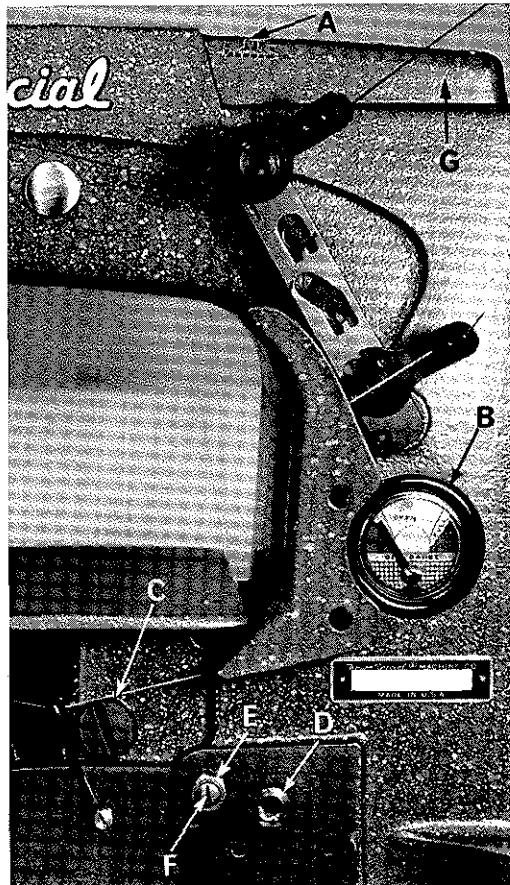
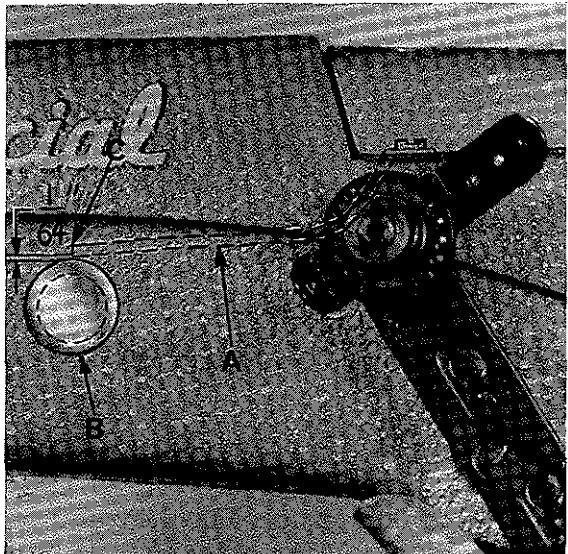

Fig. 2
Fig. 3
Use a straight mineral oil of a Saybolt viscosity of 90 to 125 seconds at 100° Fahrenheit in the main reservoir. This is equivalent to Union Special specification No. 175. Fill main reservoir at plug screw in upper crank chamber cover (A, Fig. 2) and check oil level at gauge (B). Oil is at maximum level when needle is in yellow band marked "Full". Oil should be added when needle is in yellow band marked "Low". Recommended grease No. 28604 P (See Page 10).
For machines in operation check the oil for dirt and lint deposits at reasonable intervals. If dirty, change the oil. An oil change is recommended every 2000 operating hours. Oil may be drained from main reservoir by removing plug screw (C, Fig. 2) located below the cloth plate at front of the machine, or by removing the lower crank chamber cover, located at the back of machine.
2. Remove the oil reservoir plug screw (C, Fig. 2) and tip machine forward to drain oil from the reservoir.
5. Fill main reservoir to a level even with the bottom contour of the knee press shaft bushing (D, Fig. 2).
6. Loosen lock nut (E) on calibrating screw (F), and turn the screw to the left or right until the gauge needle rests in the middle of the yellow band marked "LOW".
7. Tighten lock nut (E) and replace plug screw (C).
Remove the head cover and upper crank chamber cover (G, Fig. 2). Check position of needle lever bearings oiler(A, Fig. 3) located inside the arm casting, below the upper crank chamber cover, which lubricates the needle lever stud (B). Make sure it is tilted downwardly and that its delivery end (C) contacts the inside wall of the bed casting at the back, just above the notch of the needle lever shaft stop collar. (Do not allow the oiler to rest on the needle lever.) Allow $1/64$ inch clearance as in Figure 3.